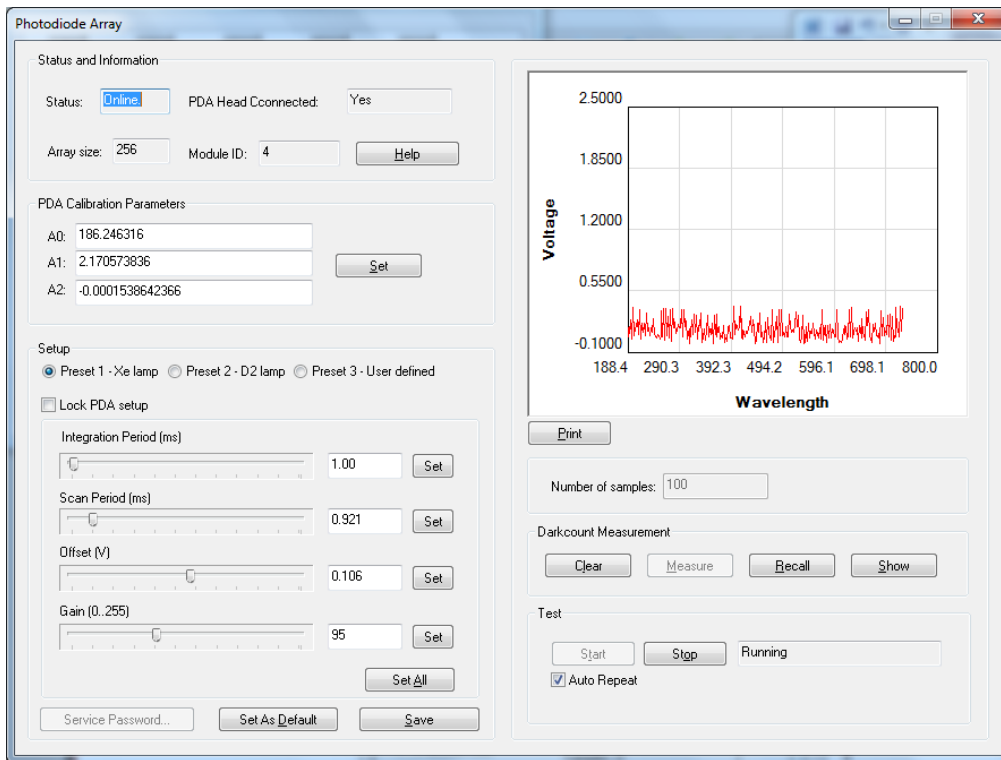

Figure 4.5 - PDA darkcount measurement
3. Close your lamp shutter and press 'Start' to take a measurement. You should see a trace appear, as in Figure 4.5.